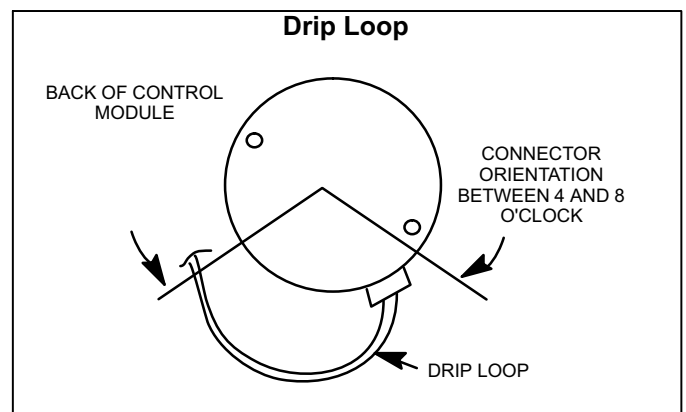

FIGURE 17
5. The electrical connectors of the motor should be facing down to form a drip loop (figure17). This will direct moisture away from the motor and its electric connections on the motor.